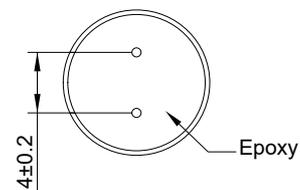

Figure 2. HC0905T/208 Mechanical Layout
- 4.3.1. Layout and Dimension : See Section 6, Figure 2